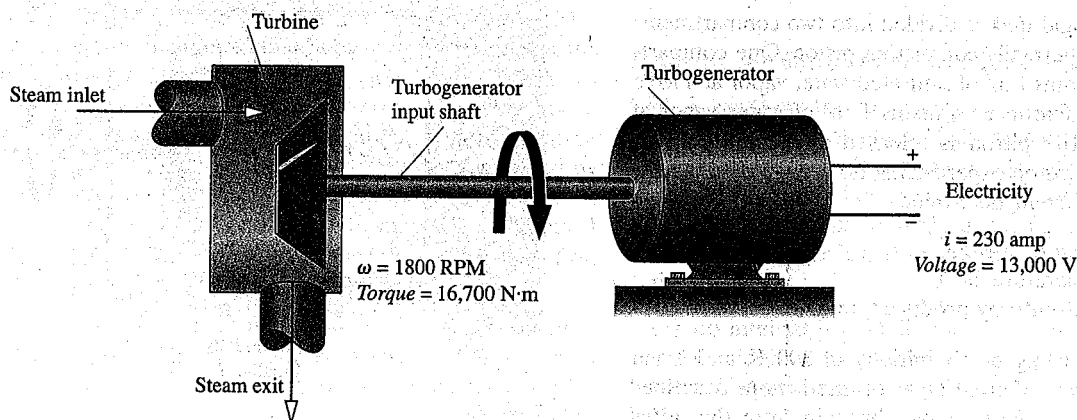

Fig. P6.59
- 6.59 A power plant has a turbogenerator, shown in Fig. P6.59, operating at steady state with an input shaft rotating at 1800 RPM with a torque of $16,700 \text{ N} \cdot \text{m}$. The turbogenerator produces current at 230 amp with a voltage of 13,000 V. The rate of heat transfer between the turbogenerator and its surroundings is related to the surface temperature T_b and the lower ambient temperature T_0 , and is given by $\dot{Q} = -hA(T_b - T_0)$, where $h = 110 \text{ W/m}^2 \cdot \text{K}$, $A = 32 \text{ m}^2$, and $T_0 = 298 \text{ K}$.